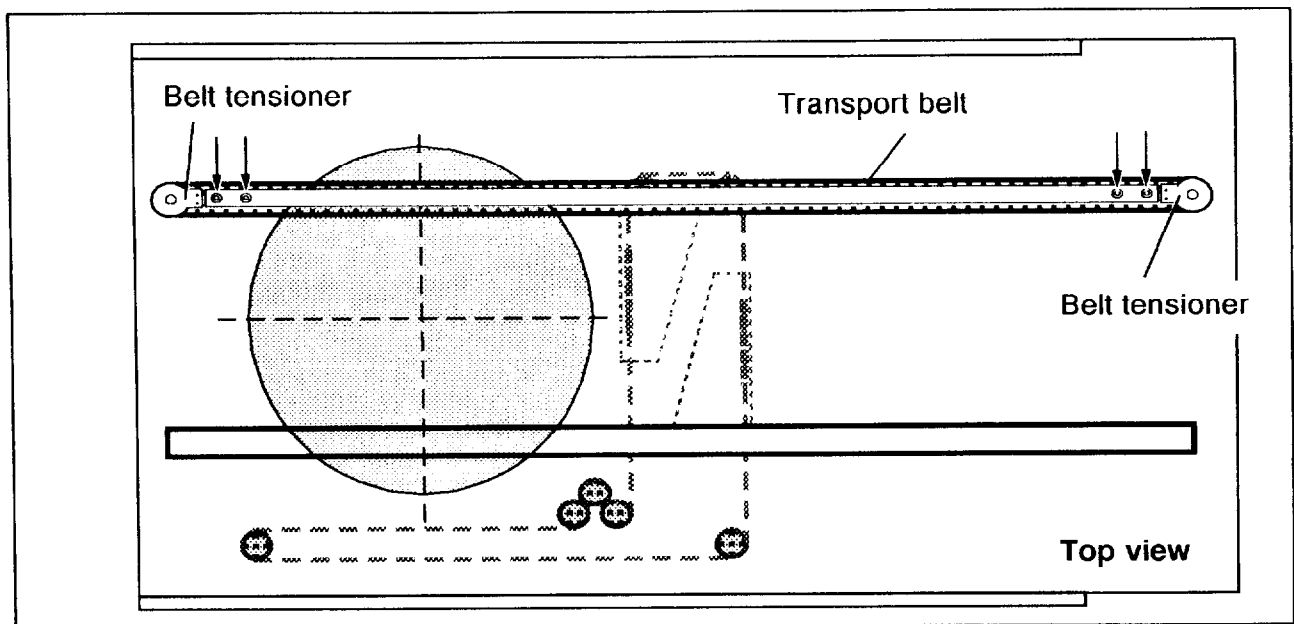

Fig. 7
- Loosen one of the two belt tensioners together with the deflection pulleys on the transport arm equipped with a belt (↘/Fig. 7) until the belt can be removed.
- By means of a spring balance, tension the new belt at the belt tensioner so that a force of  $50 \text{ N} \pm 2 \text{ N}$  results and then tighten the screws (↘/Fig. 7).